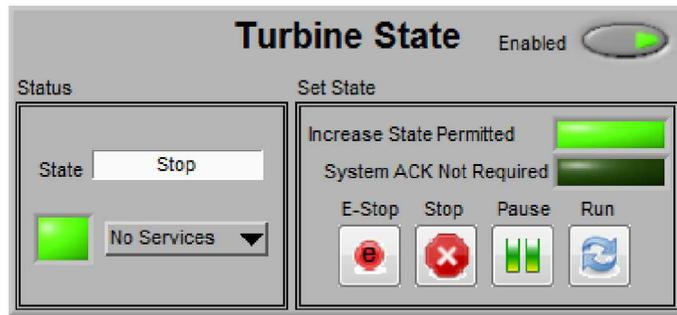
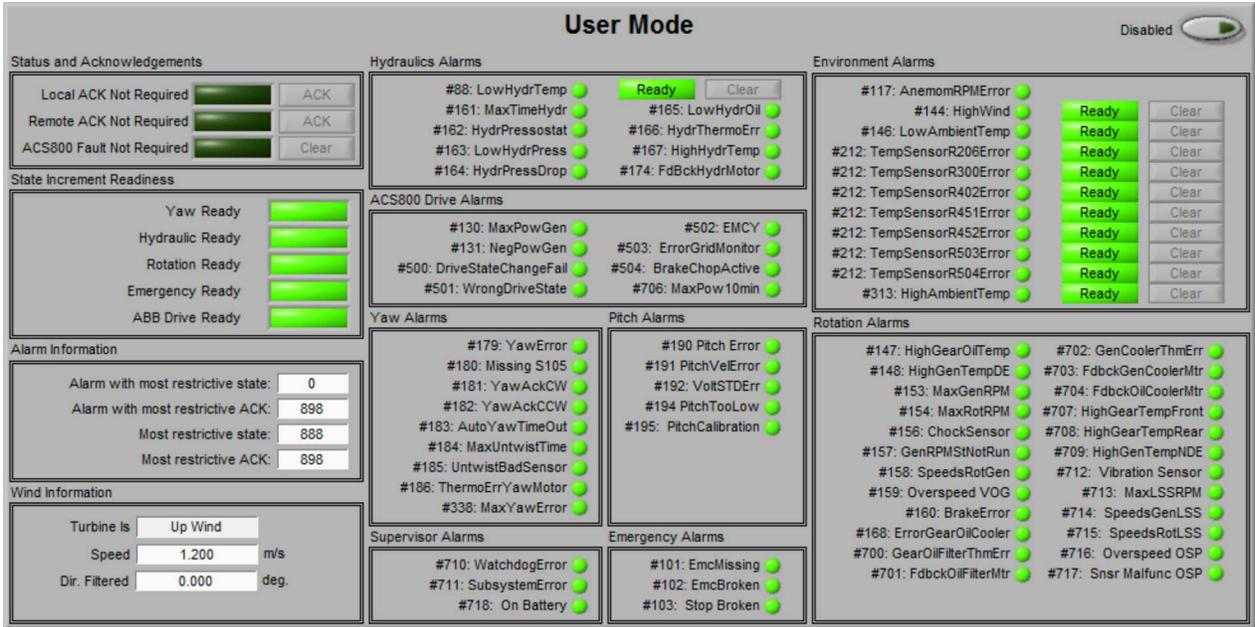

Figure 2-8. Turbine State subpanel
Figure 2-9. User Mode subpanel
The *Turbine State* subpanel (Figure 2-8) appears on several user interface screens and provides critical information about the current turbine state, as well as names of active service modes, and controls for requesting changes to the turbine state.
- **State pull-down menu:** Indicates if any, and which, service modes are active. When no service modes are active, the status will be as shown in Figure 2-8. When service modes are active, the pull-down menu will list the active service mode names.
- **Increase State light:** Indicates if the turbine state can be elevated from the current state to a higher level. Figure 2-8 illustrates the display when a state increase is permitted.
- **System ACK light:** Indicates if the user must acknowledge some type of fault or alarm. Figure 2-8 shows the state when no acknowledgment is required. When acknowledgement is required, the light will display *System ACK Required* .
The *User Mode* subpanel (Figure 2-9) provides detailed information about currently active alarms, turbine readiness, and wind information. Interaction with the *User Mode* screen functionality is requested with the *Enabled/Disabled* button in the upper right corner.
When investigating turbine alarm status, the user should also refer to the *Alarm History* table (Figure 2-7), as alarms may be active and automatically cleared by the processor. Some alarm states persist for a period of time before being automatically cleared. Alarms of this type include an adjacent countdown status light and override button. Figure 2-9 shows all the override controls in the “no countdown” state ( ); when in the “automatic reset countdown” state, the control will be displayed as .
Turbine readiness data is presented on the upper left side of the *User Mode* interface (Figure 2-9). These sections are labeled *Status and Acknowledgements*, *State Increment Readiness*, and *Alarm Information*.
**Status and Acknowledgements:** These lights indicate the type of acknowledgement required and allow the user to perform the acknowledgement function. Figure 2-9 displays the indicator state when no user action is required; when the user must acknowledge or clear a fault, the display state will be ACK Required . Faults are acknowledged or cleared by clicking the adjacent button. Should one or more of the three status lights indicate the need for a fault acknowledgement, the *System ACK* light (Figure 2-8) will illuminate.
**State Increment Readiness:** The *State Increment Readiness* section indicates the state of the five subsystems that determine whether the turbine operating state can be increased. The five subsystems monitored are *Yaw*, *Hydraulic*, *Rotation*, *Emergency*, and *ABB Drive*. A subsystem readiness to increase turbine state is indicated by status Ready . All subsystem readiness lights must indicate a “ready” state for the *Increase State* shown in Figure 2-8 to display that a state increase is permitted. The example screen shown in Figure 2-9 indicates that all of the subsystems are ready for an increase in state.
**Wind Information:** The lower left corner of the *User Mode* screen (Figure 2-9) displays summary wind information. Three numeric values are provided: